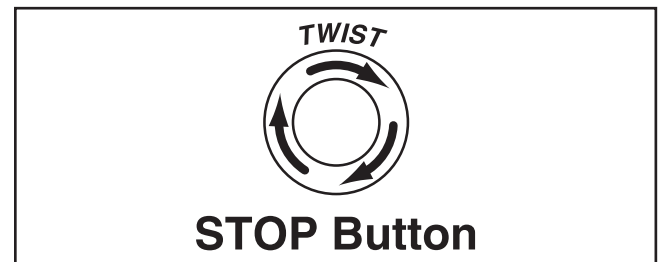

Figure 9. Resetting the switch.
4. Twist EMERGENCY STOP button clockwise until it springs out (see **Figure 9**). This resets the switch so the machine can start.